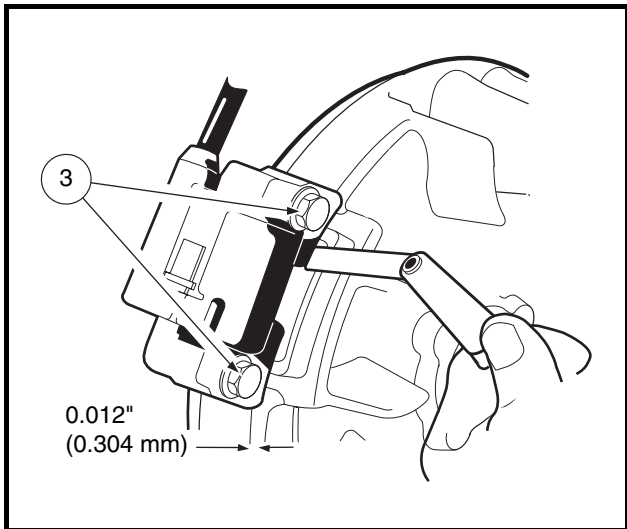

Figure 13-10 Adjust Ignition Coil Air Gap
2. While tightening the two bolts (3), use a bronze feeler gauge to adjust the ignition coil air gap to 0.012 inch (0.304 mm) (**Figure 13-10, Page 13-8**).